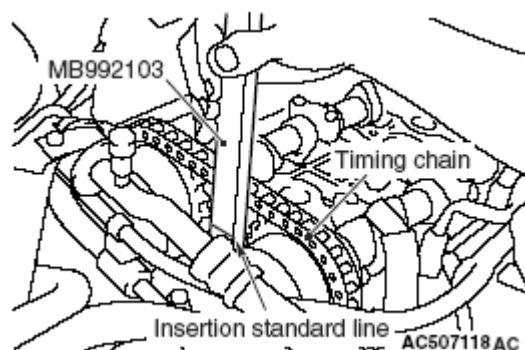
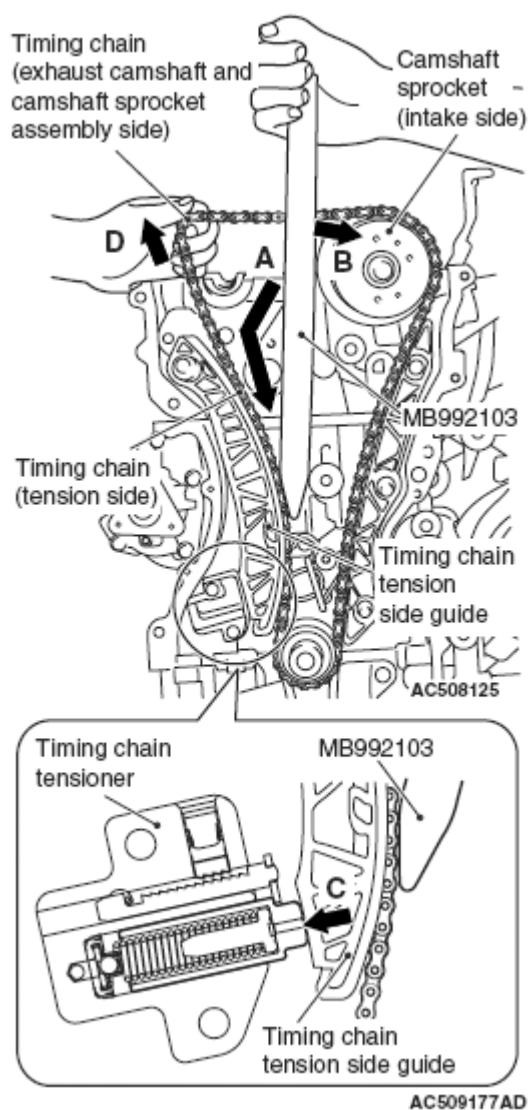

Fig. 47: Inserting Special Tool MB992103 Inside Timing Chain Case Assembly Along Tension Side Of Timing Chain
Fig. 48: Pressing Special Tool Intake Side Camshaft Sprocket
4. With the special tool inserted up to the insertion guide line, press the special tool against the intake side camshaft sprocket (**Fig. 47**) and spread and hold the timing chain tension side guide (**Fig. 48**).